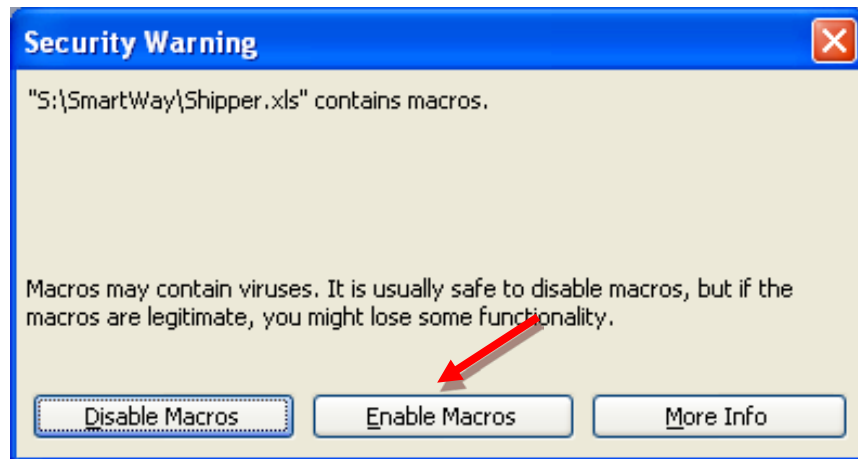

Figure B-3: Screen showing “Enable Macros” button
3. You will see a security-warning box appear (**Figure B-3**). Select the